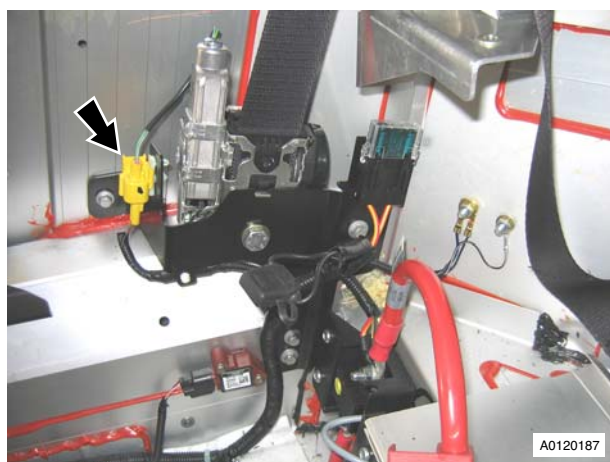

Figure 2
5. Disconnect pre-tensioner multiplug, release multiplug from mounting bracket (see Figure 2).